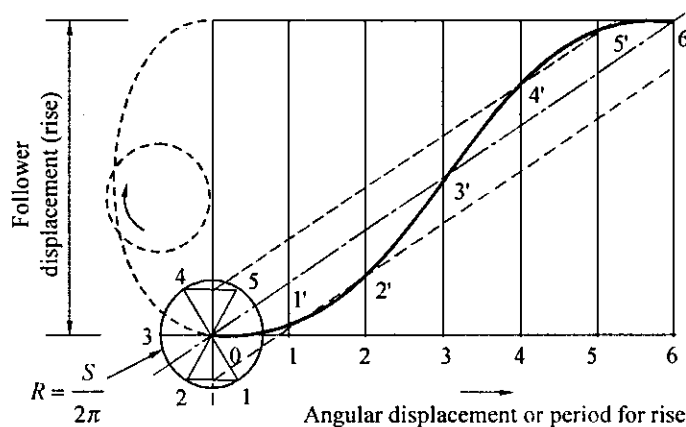

Fig. 8.9
- A cycloidal return or fall is constructed as a mirror image of fig. 8.9.